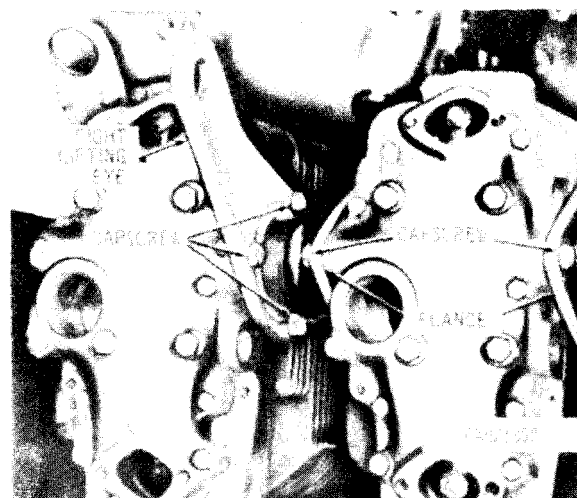

Figure 3-65. Disconnecting or connecting right lifting eye and intercylinder hose flange, model AVDS-1790-2C and AVDS-1790-2D engines.
b. Remove three capscrews (fig. 3-65) attaching right lifting eye to rocker arm cover and cylinder No. 1R and remove three capscrews attaching each inter-cylinder hose flange to remaining covers and cylinders on right side of engine. Slide flanges and lifting eye away from rocker arm covers and cylinders.